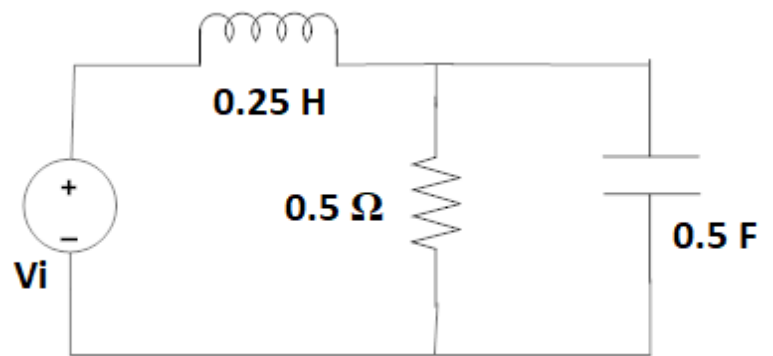

Fig. Q 5B
5B. Represent the electrical network shown in **Fig. Q 5B**, in state space physical variable form if the output is current through the resistor. Convert the state space to represent the same electrical network in transfer function form. (03)